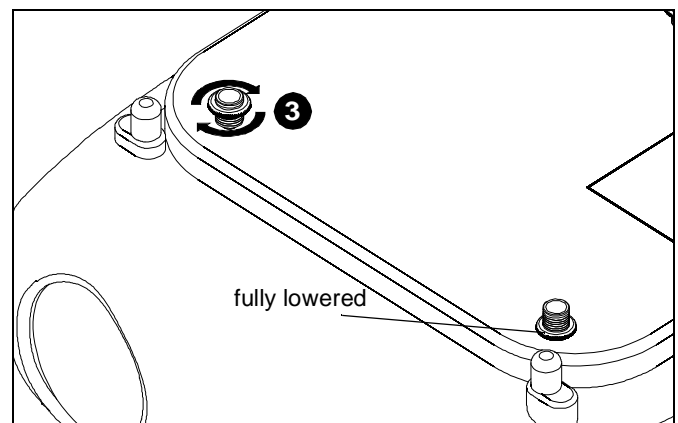

Figure 3
3. Adjust height-adjustment nuts to desired level. (See Figure 3)